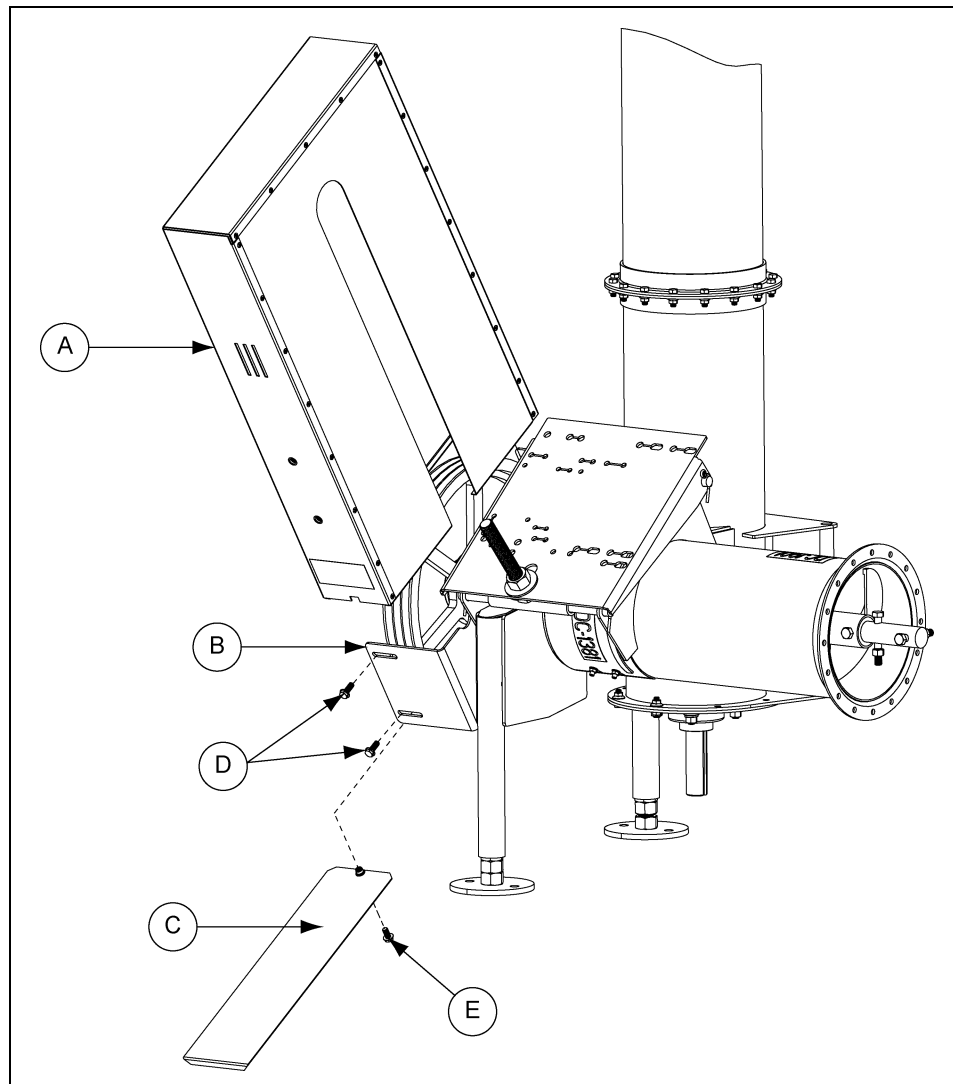
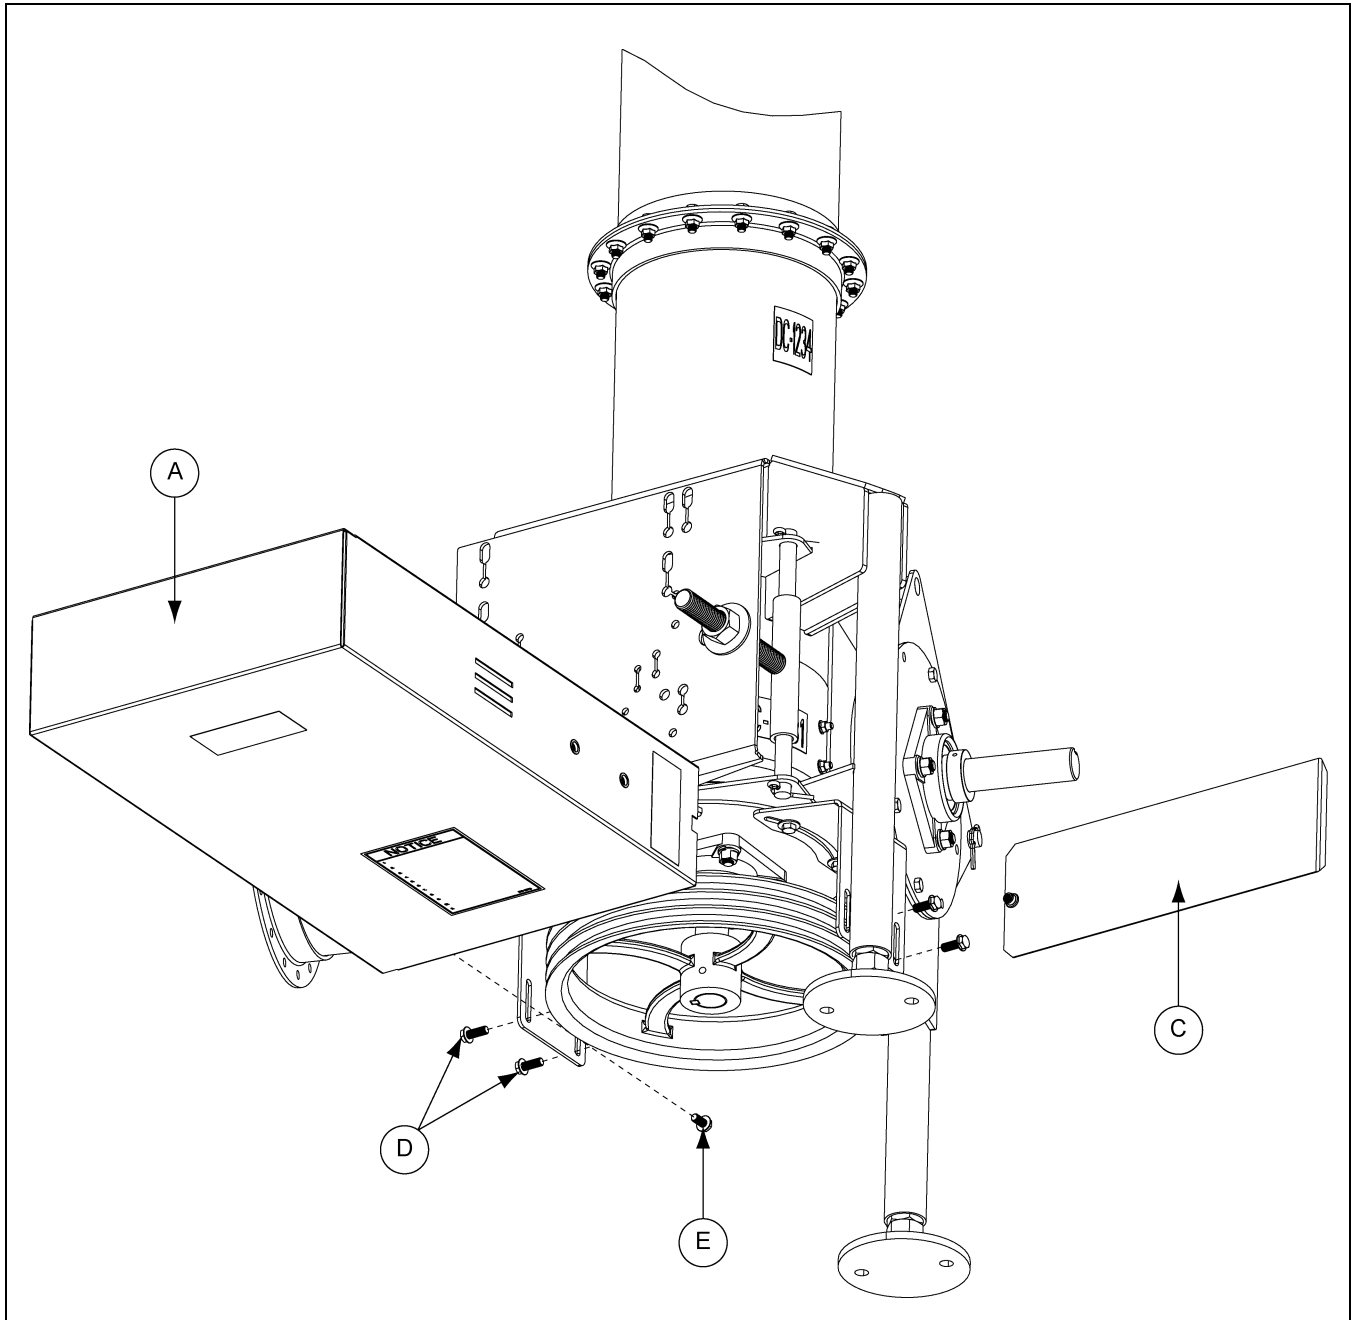

Figure 3R
Figure 3S
- A. With the belts properly tensioned, remove the *bottom belt guard cover (C)* and slip the *belt guard (A)* down over the *motor shaft* and the *flight pulley*.
- B. Bolt the *belt guard (A)* to the *belt guard mounting brackets (B)* using four (4)  $3/8"$  x  $1"$  flange bolts (D). The *belt guard mounting brackets (B)* should still be loose at this time.
- C. Align the *belt guard's* slot with the *motor shaft* and the *flight drive shaft*, making sure that the belt guard does not come into contact with either of the *pulleys*. Tighten down the *belt guard mounting brackets (B)* to the *bearing plate*. (See Figure 3R below and Figure 3S on Page 28.)